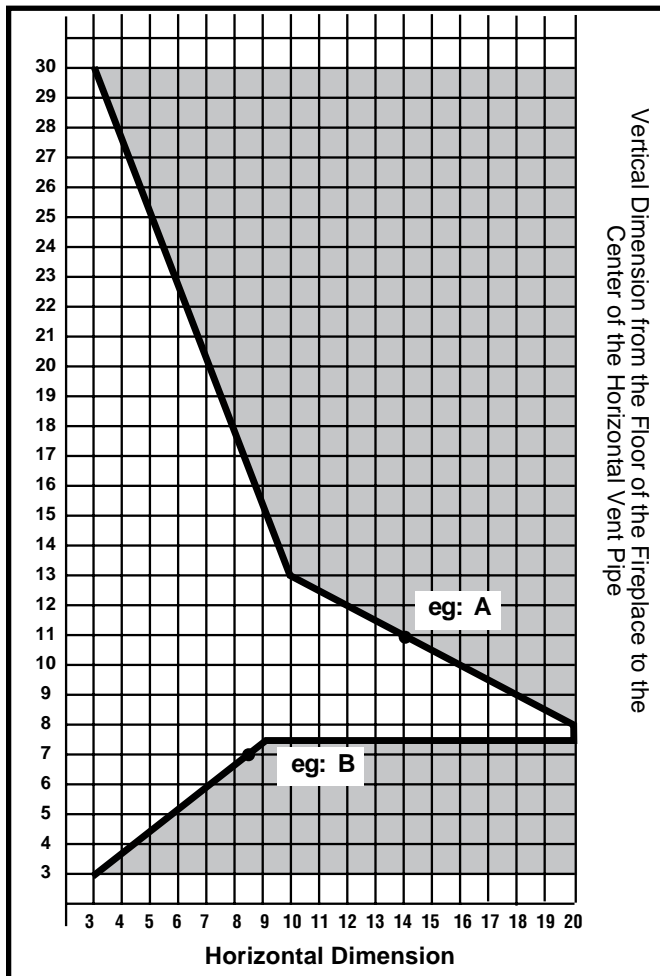

Fig. 8 Sidewall venting graph for use with RFSDV22/32.
1. Determine the height of the centre of the horizontal vent pipe exiting through the outer wall. Using this dimension on the Sidewall Vent Graph (Fig. 8 or 9), locate the point it intersects with the slanted graph line.
The graph showing the relationship between vertical and horizontal side wall venting will help to determine the various lengths allowable. (Fig. 8 or 9)